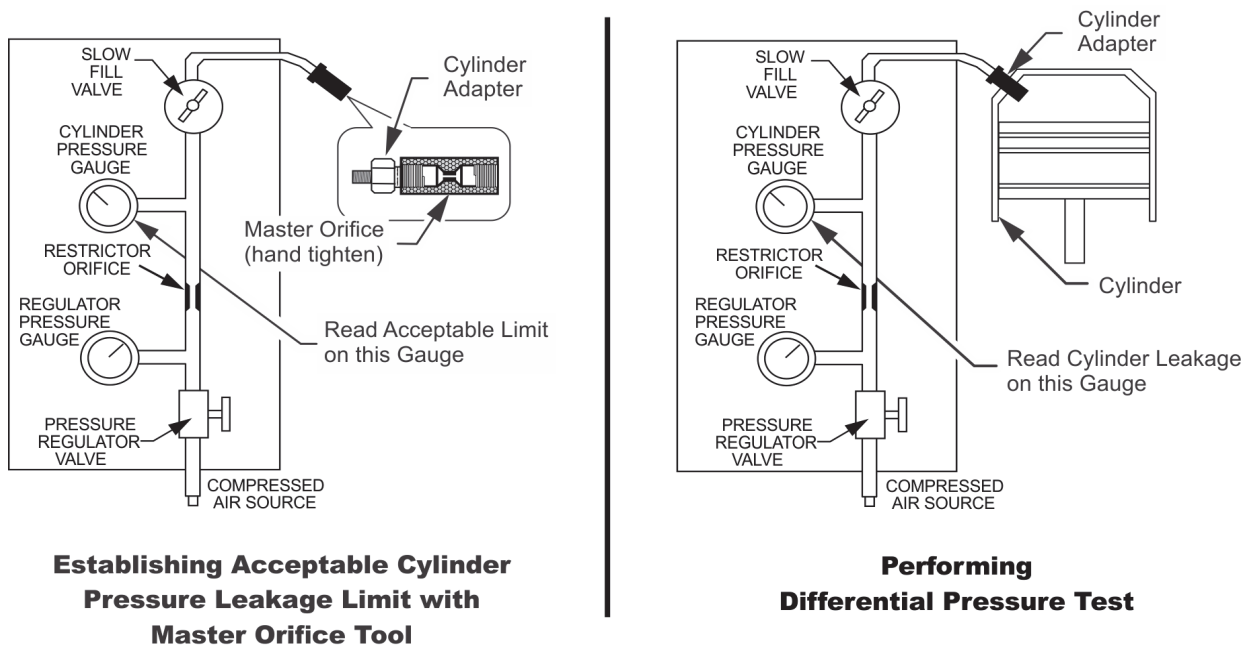

Figure 6-67. Differential Pressure Test Equipment Usage
4. Install the cylinder adapter in the spark plug hole and connect the Differential Pressure Tester to the cylinder adapter (Figure 6-67).